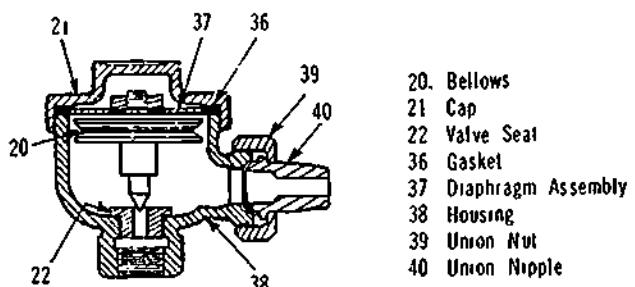

Figure 31-11. Thermostatic Steam Trap
98. Thermostatic Steam Trap. (Refer to Figure 31-11 in the accompanying appendix.) Thermostatic steam traps are installed in steam lines of sterilizers to allow air and water to be expelled from the system. The trap consists of a body (38), a valve